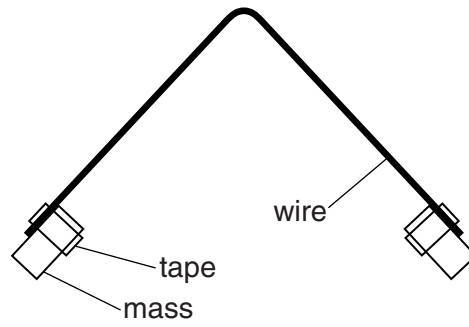

Fig. 1.2
- 2 The two 50 g masses should be taped to the wire as shown in Fig. 1.2. The ends of the steel wire should fit into the central holes in the slotted masses.